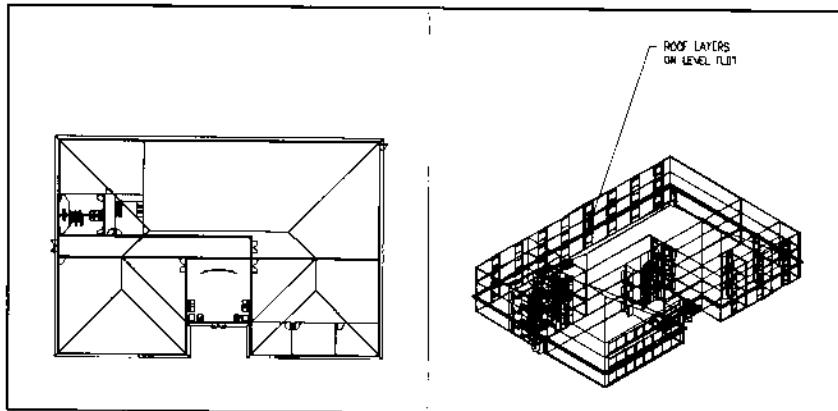

Figure 24.
- Figure 24 shows the roof layers in relation to level FL01.